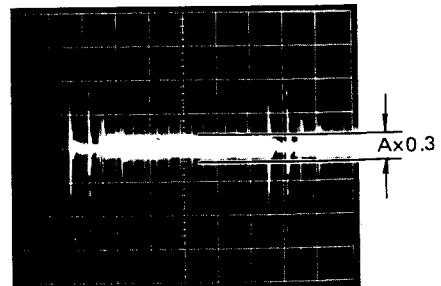

Fig. 5-6-9
- o Adjust VR19 (NOISE SUPPRESS) so that the noise level becomes $A \times 0.3$. (Fig. 5-6-9)